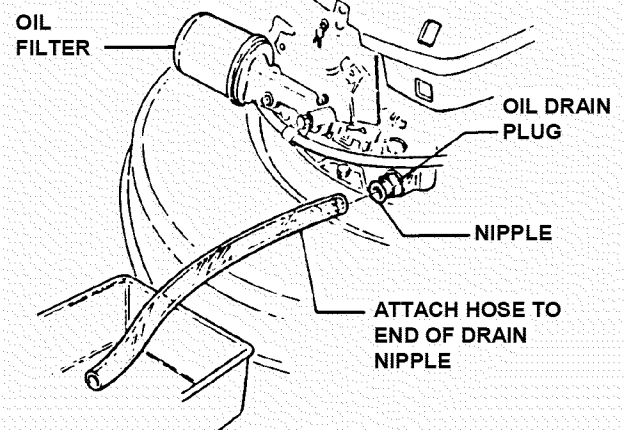

FIGURE 3.1B
1. The items needed to perform oil change are: cloth rags, (1) 24" long plastic hose and (1) 2 quart shallow pan.
2. Tilt mower on its left wheels and place blocks under the right wheels. See Figure 3.1B.